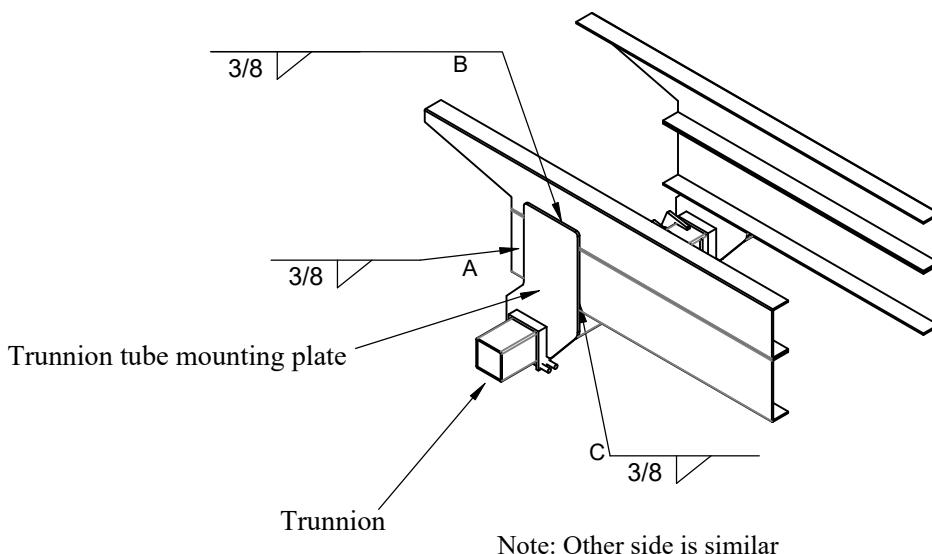

Figure 25: Finish Weld Locations.
17. **Tack Weld** on the trunnion tube mounting plates to the truck frame using 3/8" fillet welds, 1" long in locations A, B, & C (Figure 25).
18. **Lock** the plates by tightening the provided (4) M16x140 bolts to 125 ft-lb torque.
- 2. Finish Weld** the trunnion tube mounting plates to the truck frame with 3/8" fillets (Figure 25).